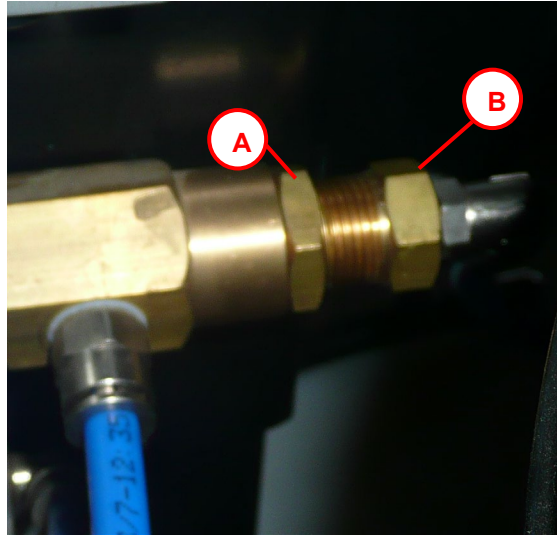

Figure 11.2-1 Adjusting maximum pressure pneumatic circuit
5. Unscrew with wrench 22 mm in, the nut (Letter A in Figure 11.2-1); Air filter area:
7. If you want to reduce the regime min unscrew, with a 19 mm wrench, nut (Letter B in Figure 11.2-1);
8. Once the adjustment screw, with a 22 mm wrench, nut (Letter A in Figure 11.2-1);